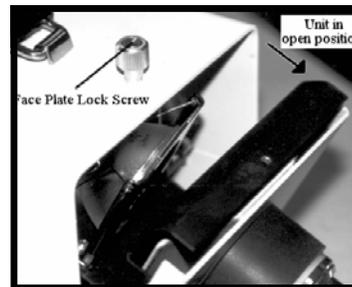

Fig. 2
2. Turn the Face plate lock screw counterclockwise releasing the front panel as seen in *Fig. 2*
6. Close the front face plate and tighten Face Plate Lock Screw (*See pg.7 Fig. 2*)